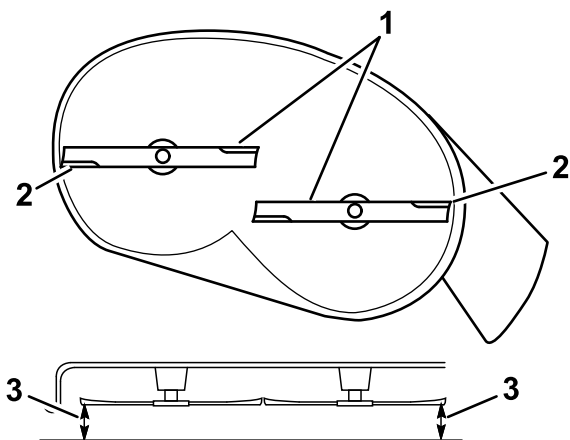

Figure 68
5. Measure between the outside cutting edges and the flat surface (Figure 68).